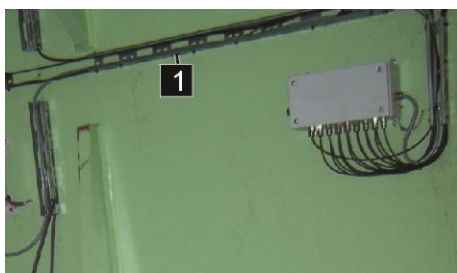

Fig.65: Cable trays on engine block
1. Lay cables of all sensors that have to be attached through cable trays (Fig.65/1) to the Terminal box.